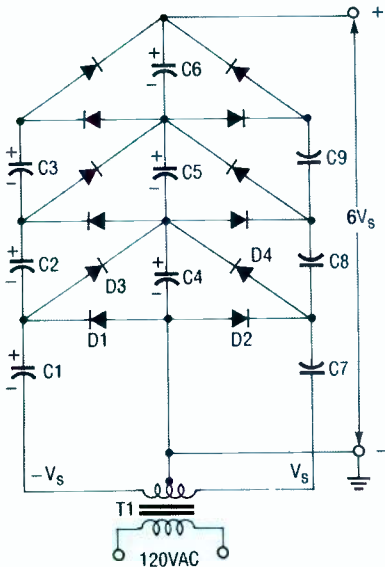

FIG. 7—THE COCKCROFT-WALTON, or Greinacher cascaded voltage doubler, has improved performance for moderate-current applications.
nents, solder leads of adequate length to the boards, and use different colors for the speaker and power ground leads to avoid connecting them together. Next, connect the power leads between boards, and connect an AC line cord to the power supply. The author's completed unit, containing a protector circuit for both the left and right channels and one power supply, is shown in Fig. 7.
**FIG. 7—HERE'S THE AUTHOR'S PROTOTYPE.** It contains a protector circuit for both the left and right channels and one power supply. The entire unit is only about 4 inches wide by 6 inches long.
mounted in a case like the one pictured in Fig. 7. Otherwise you can use whatever case you like. When drilling holes in plastic cases, start with a small drill bit and work your way up to the final size. Otherwise you may find yourself with a handful of plastic fragments.
Figures 5–8 show four additional voltage doublers. The one shown in Fig. 5 is the most straightforward. If you build it, use 1N4007 diodes with peak inverse voltage (PIV) ratings of 1 kilovolt for D1–D6, and 0.068–0.1  $\mu\text{F}$  capacitors with working voltages of 400 volts DC. Figure 5 is electrically identical to the one in Fig. 6, so keep that in mind if you should come across either format. Figure 7 shows an extended version that's better